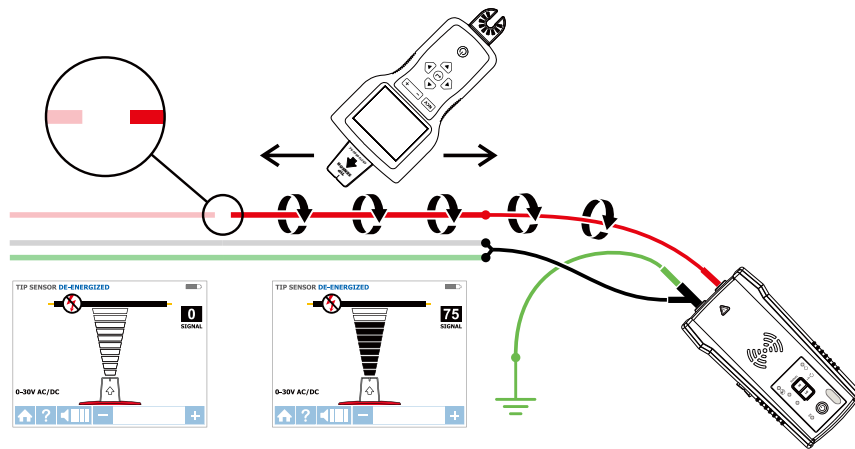

Figure 4.2: Locating the place of the fault
3. For best results, ground all De-energized wires that run in parallel with the black test lead. (Figure 4.2).